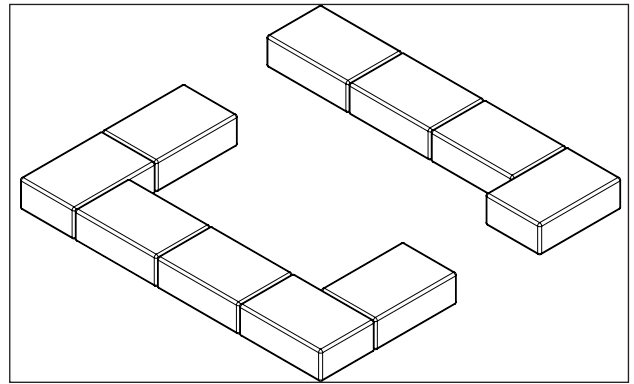

Figure 6: Brick layout
If desired a wall switch/timer/smart home switch (not supplied) may be wire into the incoming power circuit. See diagram Figure 6.
2. Lay out the first layer of the bricks (See Figure 6).